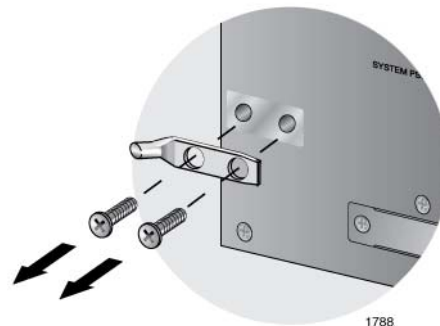

Figure 44. Removing the Grounding Lug
2. Remove the two screws that secure the grounding lug to the rear panel of the chassis, as shown in Figure 44.